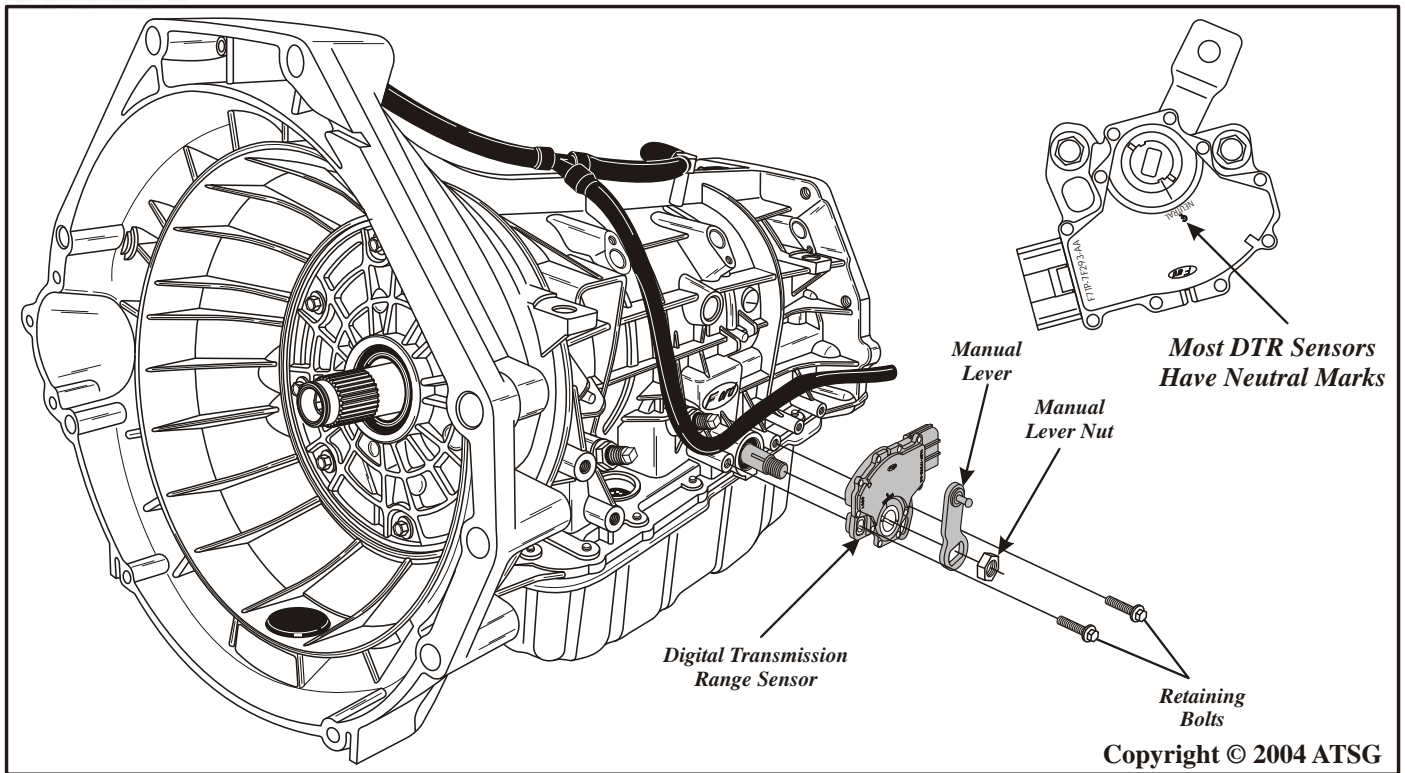

Figure 182
1. Place the manual lever in the neutral position and install the Digital Transmission Range sensor, as shown in Figure 182.
2. Install the two DTR retaining bolts finger tight at this time (See Figure 182).